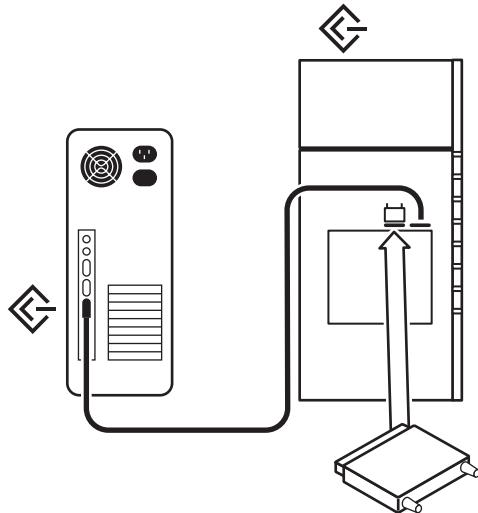

Figure 8: Connecting to the host
2. Connect the jukebox to your host computer and terminate the last device in the SCSI chain (see Figure 8).